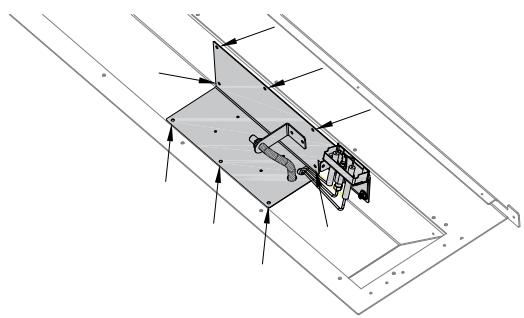

Figure 9.6 - Control Board Removal and Installation
5. Remove burner media tray and burner (4) screws. See Figure 9.6. Release the burner tube venturi off of the burner orifice and remove from firebox.
6. Remove burner media tray support brackets (4) screws.
7. Remove the front perimeter and media tray brace, and burner support brackets (9) screws total.
8. Remove rear perimeter and media tray brace (5) screws.
9. Remove bottom air chute panel (4) screws.
10. Remove and save (8) screws securing the control board.